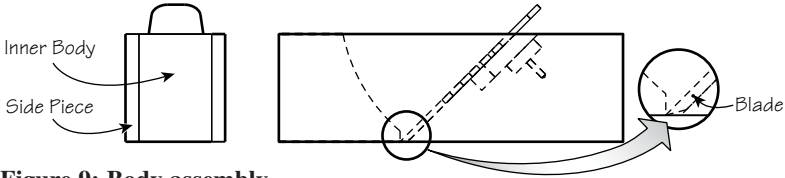

Figure 9: Body assembly.
8. Arrange the inner body cut-outs and side pieces as shown in **Figure 9**. Place the blade (bevel down) on the blade bed and position the front piece of the body so it is just touching the leading edge of the blade. This will ensure a tight mouth opening.